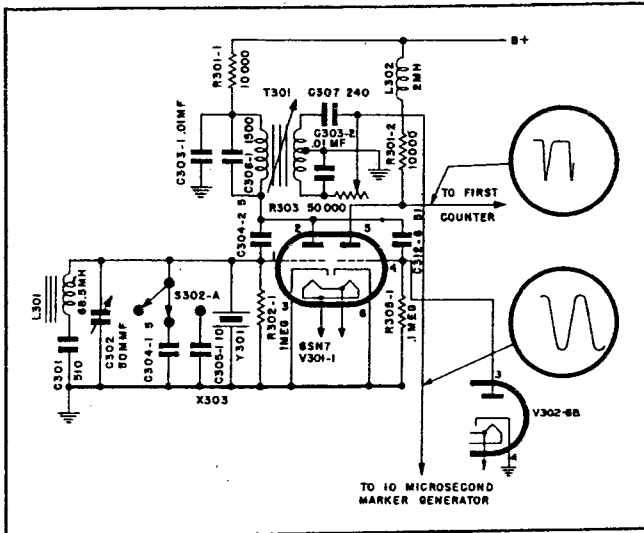

Figure 4-11. Crystal Oscillator and Squaring Amplifier
(1) CRYSTAL OSCILLATOR AND SQUARING AMPLIFIER. (See figure 4-11.)—The timing standard used in the indicator is a crystal oscillator circuit controlled by crystal Y-301, a 100-kilocycle crystal. All the functions of the indicator are directly or indirectly controlled by the crystal. Figure 4-11 shows the crystal oscillator and squaring amplifier circuits in detail.
R-F energy at a frequency of 100 kilocycles is fed to the second section of V-301-1 through capacitor C-312-6. The voltage is sufficient to drive the grid of V-301-1 alternately past cut-off and to zero bias, resulting in a somewhat rectangular output wave form. See figure 4-11. This wave form is desirable in order to obtain proper counter action in the succeeding stage. The B section of diode V-302-6 is connected across R-305-1 to prevent the development of any positive voltage at the grid. Resistor R-301-1 and capacitor C-303-1 serve to isolate the oscillator plate supply from the main B supply to prevent undesirable coupling. The secondary winding of transformer T-301 feeds into a phase-shifting network made up of capacitors C-303-2, and C-307 together with adjustable resistor R-303. This network permits shifting the phase of the voltage applied to the grid of V-303-2 the marker amplifier so that every fifth 10-microsecond marker may be made to coincide with the 50-microsecond markers provided by the first counter stage. The adjustment for resistor R-303 is located as indicated in figure 8-12, and is set at the factory for correct operation.